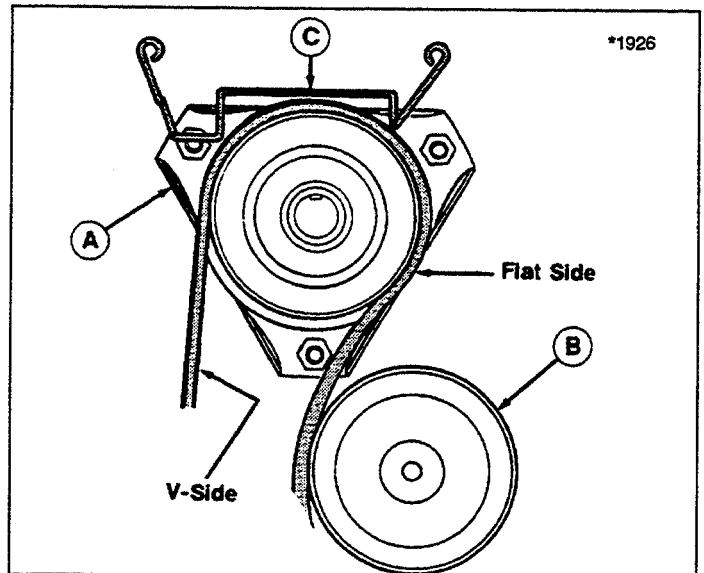

Figure 42. Belt Pulleys
- Remove belt from PTO pulley. See figure 42. Hardware securing belt stops may have to be loosened in order to remove belt.
- See figure 42. Make sure mower belt goes underneath rider, and **over the drive axle**. Install belt around bottom pulley of PTO.
- See figure 42. Install anti-spin rod to PTO. Insert other end through frame and secure with spring clip.